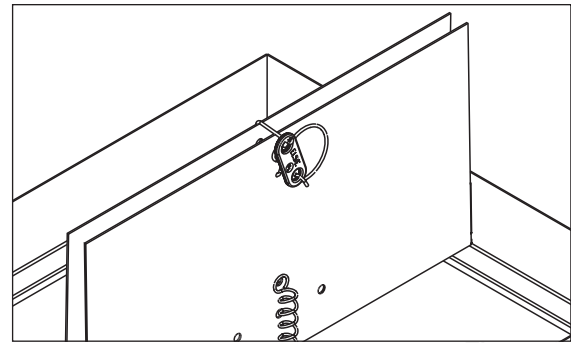

Figure 2
- 1) CRD's are shipped from the factory with the blades in the closed position. The fusible link must be installed at the time of installation such that the blades are held open as shown in Figure 2.